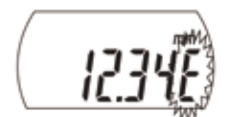

Fig. 5
2. For Digimatic types, the letter "E" at the end of the display that appears momentarily during spindle movement does not indicate a fault. However, if it is displayed continuously then repair is necessary. (Fig. 5)